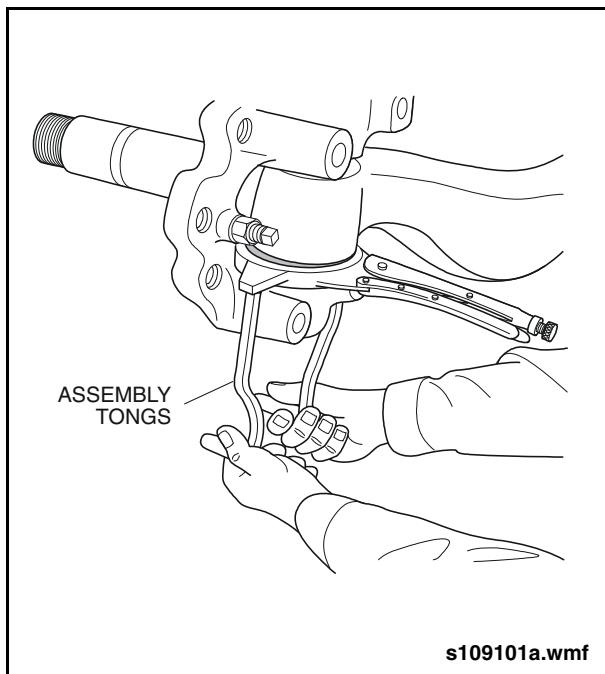

Fig. 1-24: Axle Beam Dust Guard
13. Using the thrust bearing sleeve positioning tool (Item 50 from special tools list) slide the dust guard on the thrust bearing down and away from the axle beam. See "Fig. 1-24: Axle Beam Dust Guard" on page 24.